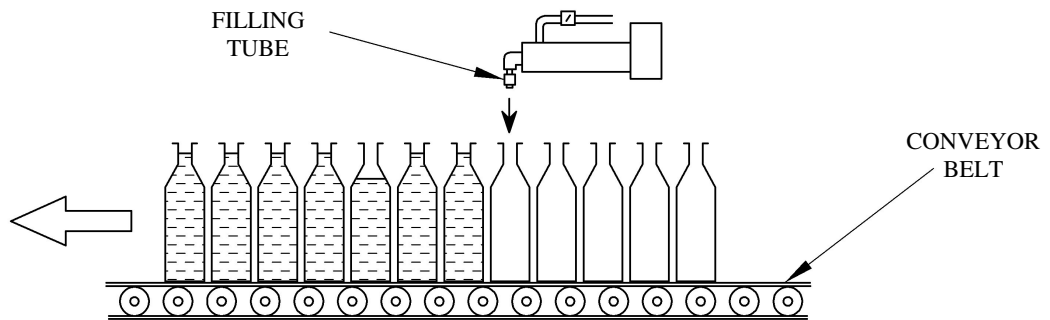

Figure 3(a)
3. (a) Figure 3(a) shows part of an automatic bottle filling line. Empty bottles are uniformly spaced on a conveyor belt. The filling tube is preset to discharge a certain amount of liquid into a positioned bottle.